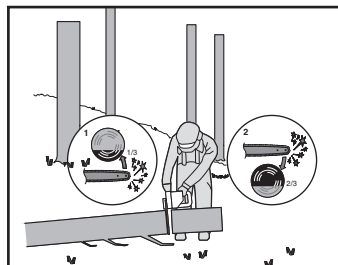

Figure 5
When the log is supported on one end, as illustrated in Figure 5, cut 1/3 the diameter from the underside (underbuck) (1). Then make the finished cut by overbucking (2) to meet the first cut.